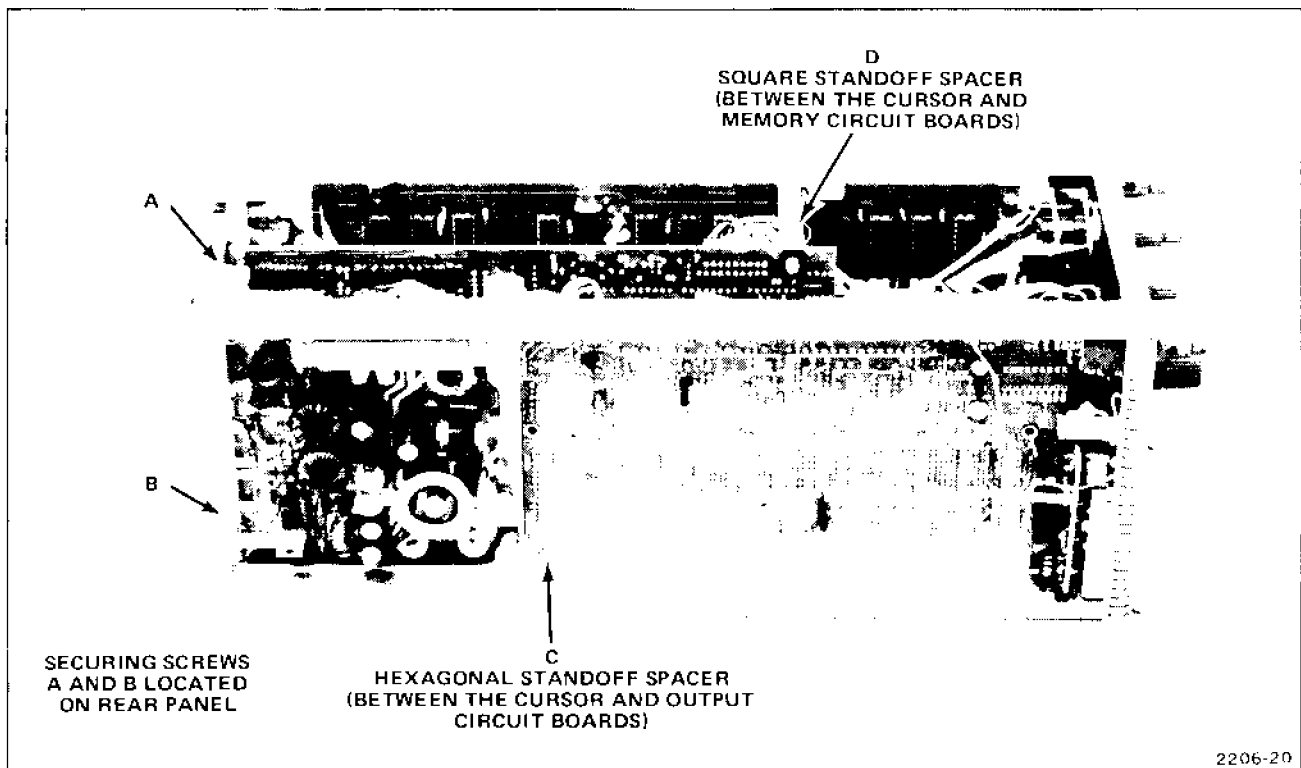

Figure 4-9. Locations of securing screws on the Cursor circuit board.
3. Remove 2 flat-head screws (A and B, Fig. 4-9) which secure Cursor circuit board to rear panel.
4. Remove 1 screw (C, Fig. 4-9) that secures Output board to hexagonal standoff spacer.
5. Remove 2 screws (D, Fig. 4-9) that secures Memory board and frame rail to square standoff spacer.